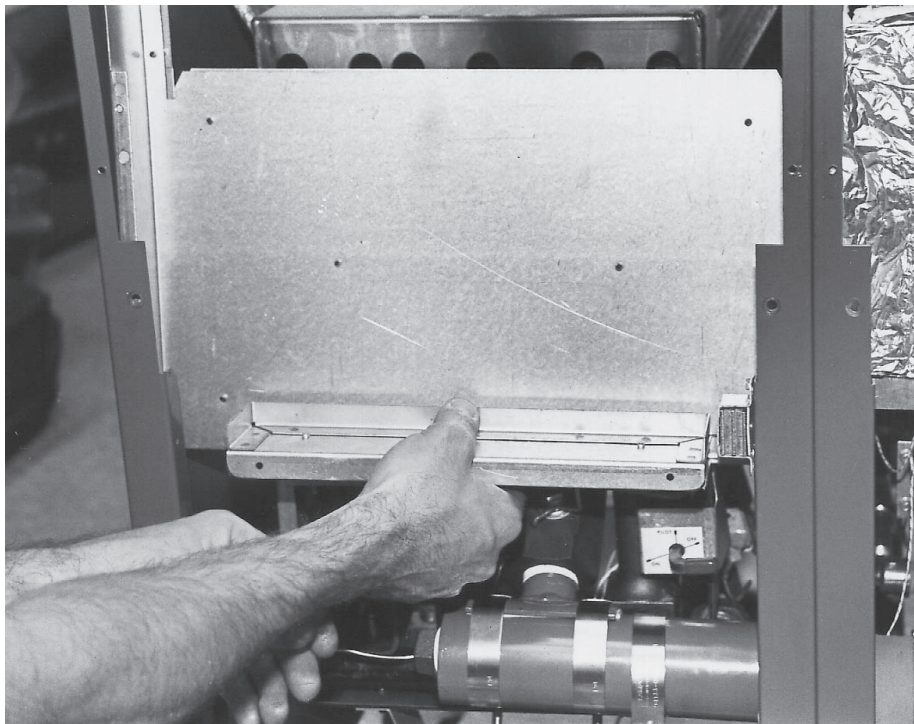

Fig. 40
3. With a 5/16" socket remove (4) 10-24 screws holding the heat shield in place.
4. Slide the heat shield down to expose the burner mounting screws. (Fig. 40)